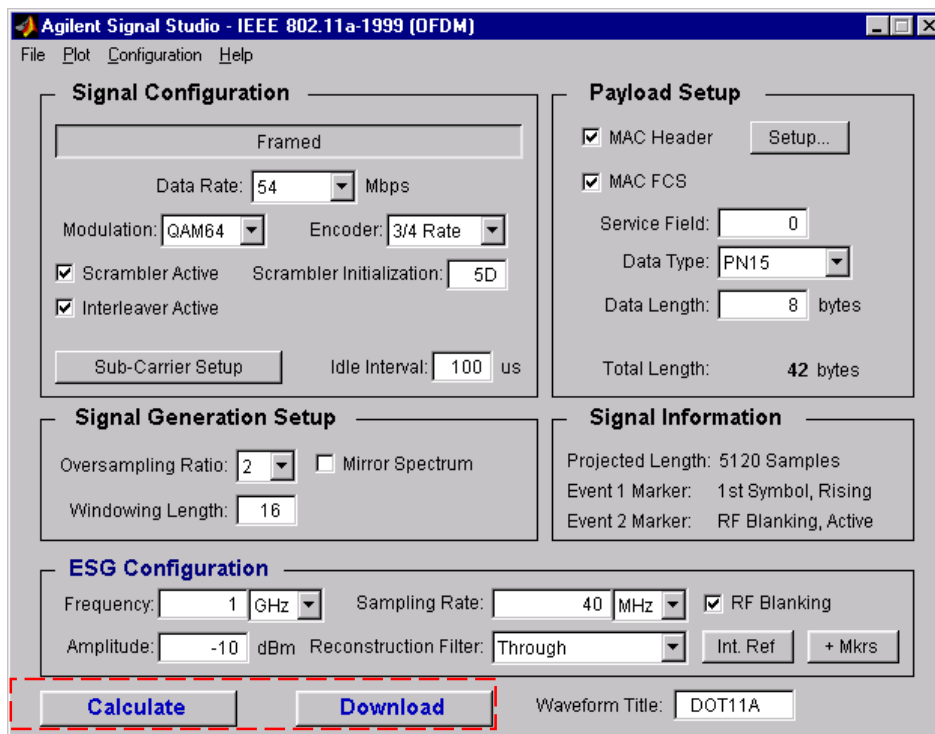

Figure 16. Signal Studio-802.11a Calculate and Download menu.
**Select Download button** (see Figure 16) to send the calculated I/Q waveform file representing the 802.11a and the signal generator settings to the instrument. The signal generator automatically begins producing the 802.11a RF signal. Local control of the instrument is then re-enabled and signal generator settings can be modified from the instrument's front panel. The waveform files themselves cannot be modified once they have been downloaded to the instrument.
The Signal Studio-802.11a software configuration can be saved to the host computer's local hard drive. The configuration can then be recalled at any time to re-calculate and download the waveform to the signal generator. This is especially useful when complex configurations have been created in the software. From the menu keys at the top of the window in Figure 16, choose File → Save As, and then name the file and save it in the ESG-B/Dot11a directory. The software configuration can be recalled anytime by choosing the following menu options: File → Open, then the file name.
The following measurements illustrate some of the typical characteristics of the Signal Studio-802.11a waveform that was generated and transmitted from the ESG. Most of these measurements were set up with the same parameters as shown in Figure 16.